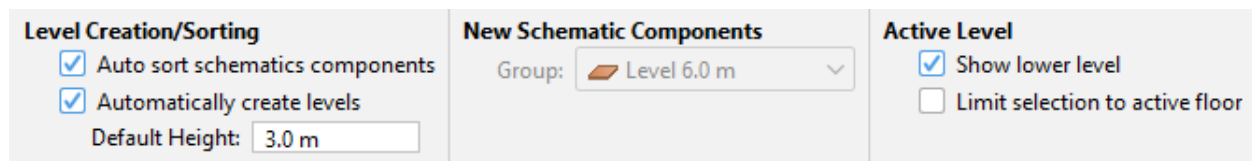

Figure 18. Level Creation Panel
When nothing is selected in the model and no tools are active, the **Level Creation** panel is shown, as in Figure 18. This panel controls the automatic creation of levels and automatic sorting of new objects into levels. It also provides some options for level view and selection.
2. Clear the selection so that the **Level Creation** panel is visible (Figure 18).